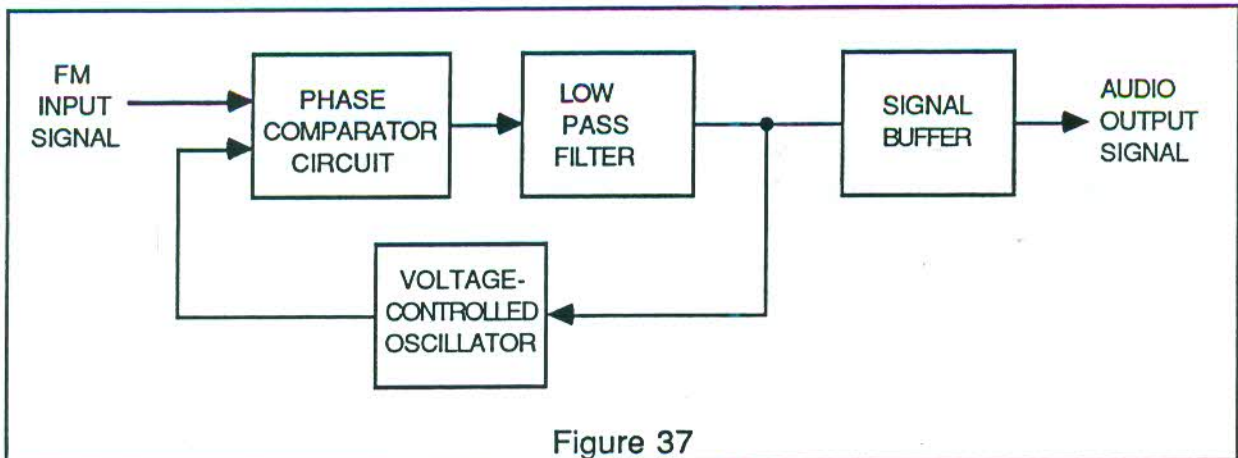

Figure 37
This signal is buffered to avoid loading the output of the low pass filter, so that the final demodulated output from the PHASE-LOCKED LOOP DETECTOR appears at the output of the SIGNAL BUFFER (see Figure 37).
13. You will note that the amplitude of the high-frequency ripple component at t.p.60 is actually higher than that of the required sinewave component. This indicates that the simple, passive low pass filter circuit within the detector (as shown in Figure 37) is not sufficient to remove this unwanted high-frequency component from the required audio component.